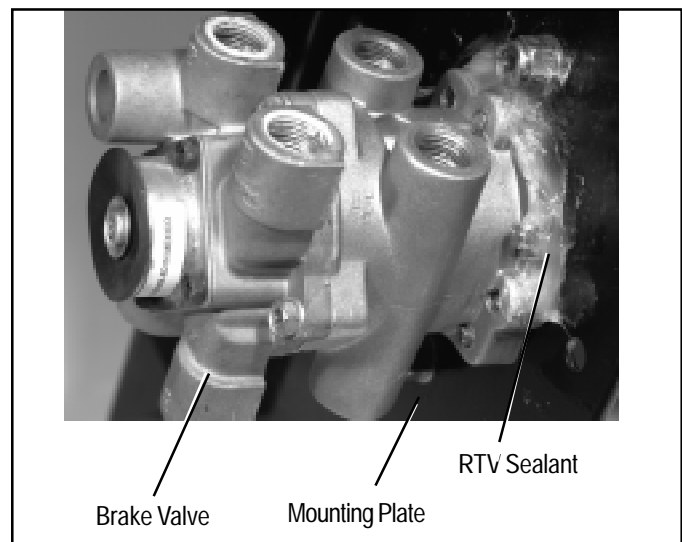
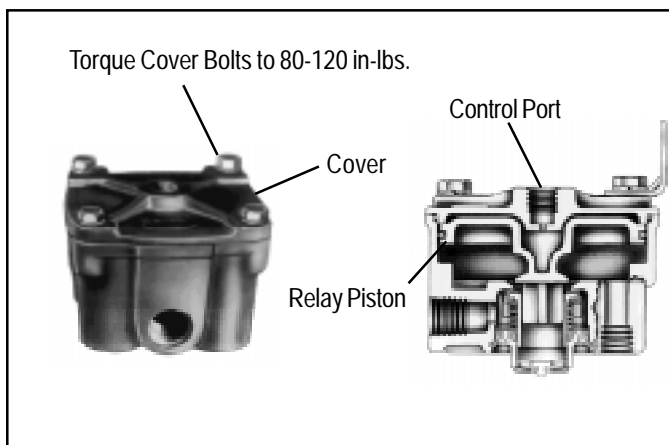

FIGURE 4 - E-8P WITH SEALANT APPLIED
FIGURE 5- R-12 RELAY VALVE
10. Using RTV sealant(4), seal the vent hole at the top of the brake valve. Using your finger force the sealant into the breather cavity. A rubber glove(7) is included for ease of application. In addition, apply a 1/4" bead of sealant across the top seam of the brake valve between the mounting plate and brake valve mounting flange. The bead should cover both sides of the upper mounting boss, and over the boss as well. See figure 4.
12. Mark the brake valve by securing the green zip-tie(3) around the brake valve body.
16. Drain the air pressure from the system. Thoroughly clean the outside of the R-12 valve body. Verify the air system is at zero pressure. Remove the top cover of R-12 relay valve. **Note:** Be aware some relay valves contain an internal spring which applies force to the relay piston and cover. See figure 5. Inspect the valve for moisture. Remove any moisture found in the valve using compressed air or a clean shop rag. Replace the valve cover and torque the relay cover bolts to 80-120 in-lb.